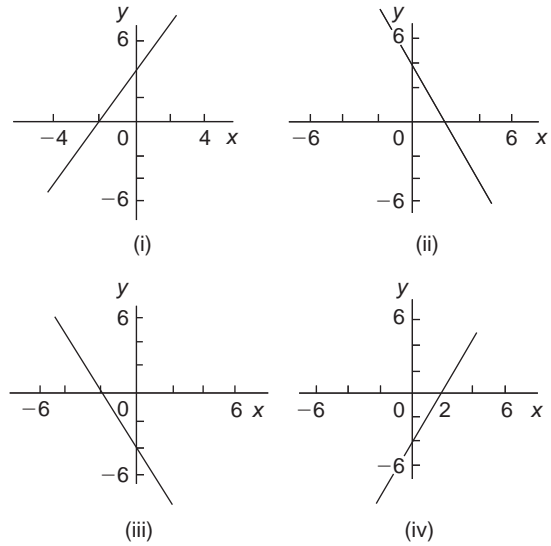

Figure M3
29. Which of the straight lines shown in Fig. M3 has the equation $y + 4 = 2x$?